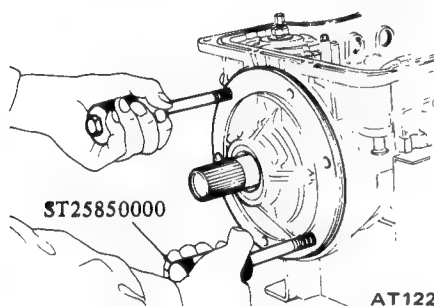

Fig. AT-56 Removing oil pump
8. Withdraw oil pump using Sliding Hammer ST25850000. Exercise care not to allow front clutch to come out of position and drop onto floor. See Figure AT-56.